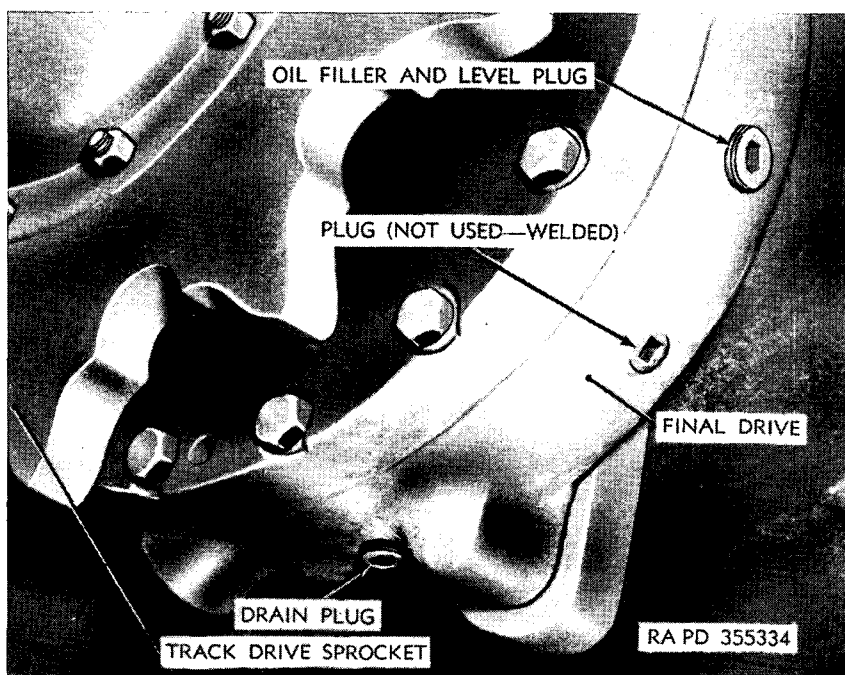

Figure 243. Final drive lubrication plugs.
a. SERVICE. An oil filler and level plug and a drain plug are furnished to service the final drive (fig. 243). To check the lubricant, remove oil filler and level plug. Lubricant level should be up to lower threads of plug hole when the vehicle is on level ground. Use lubricant as specified on the lubrication order (fig. 86) when replenishing or replacing lubricant.